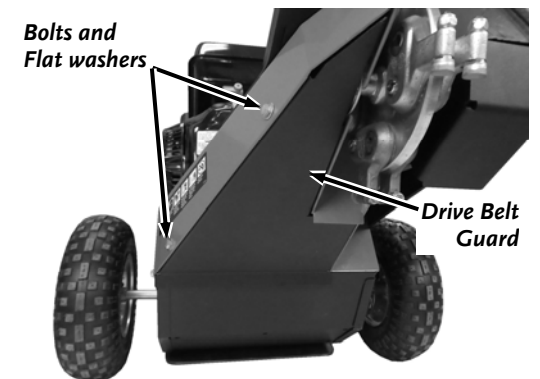

Figure 36
1. Tilt the machine back only enough to access the Drive Belt Guard (**Figure 36**).